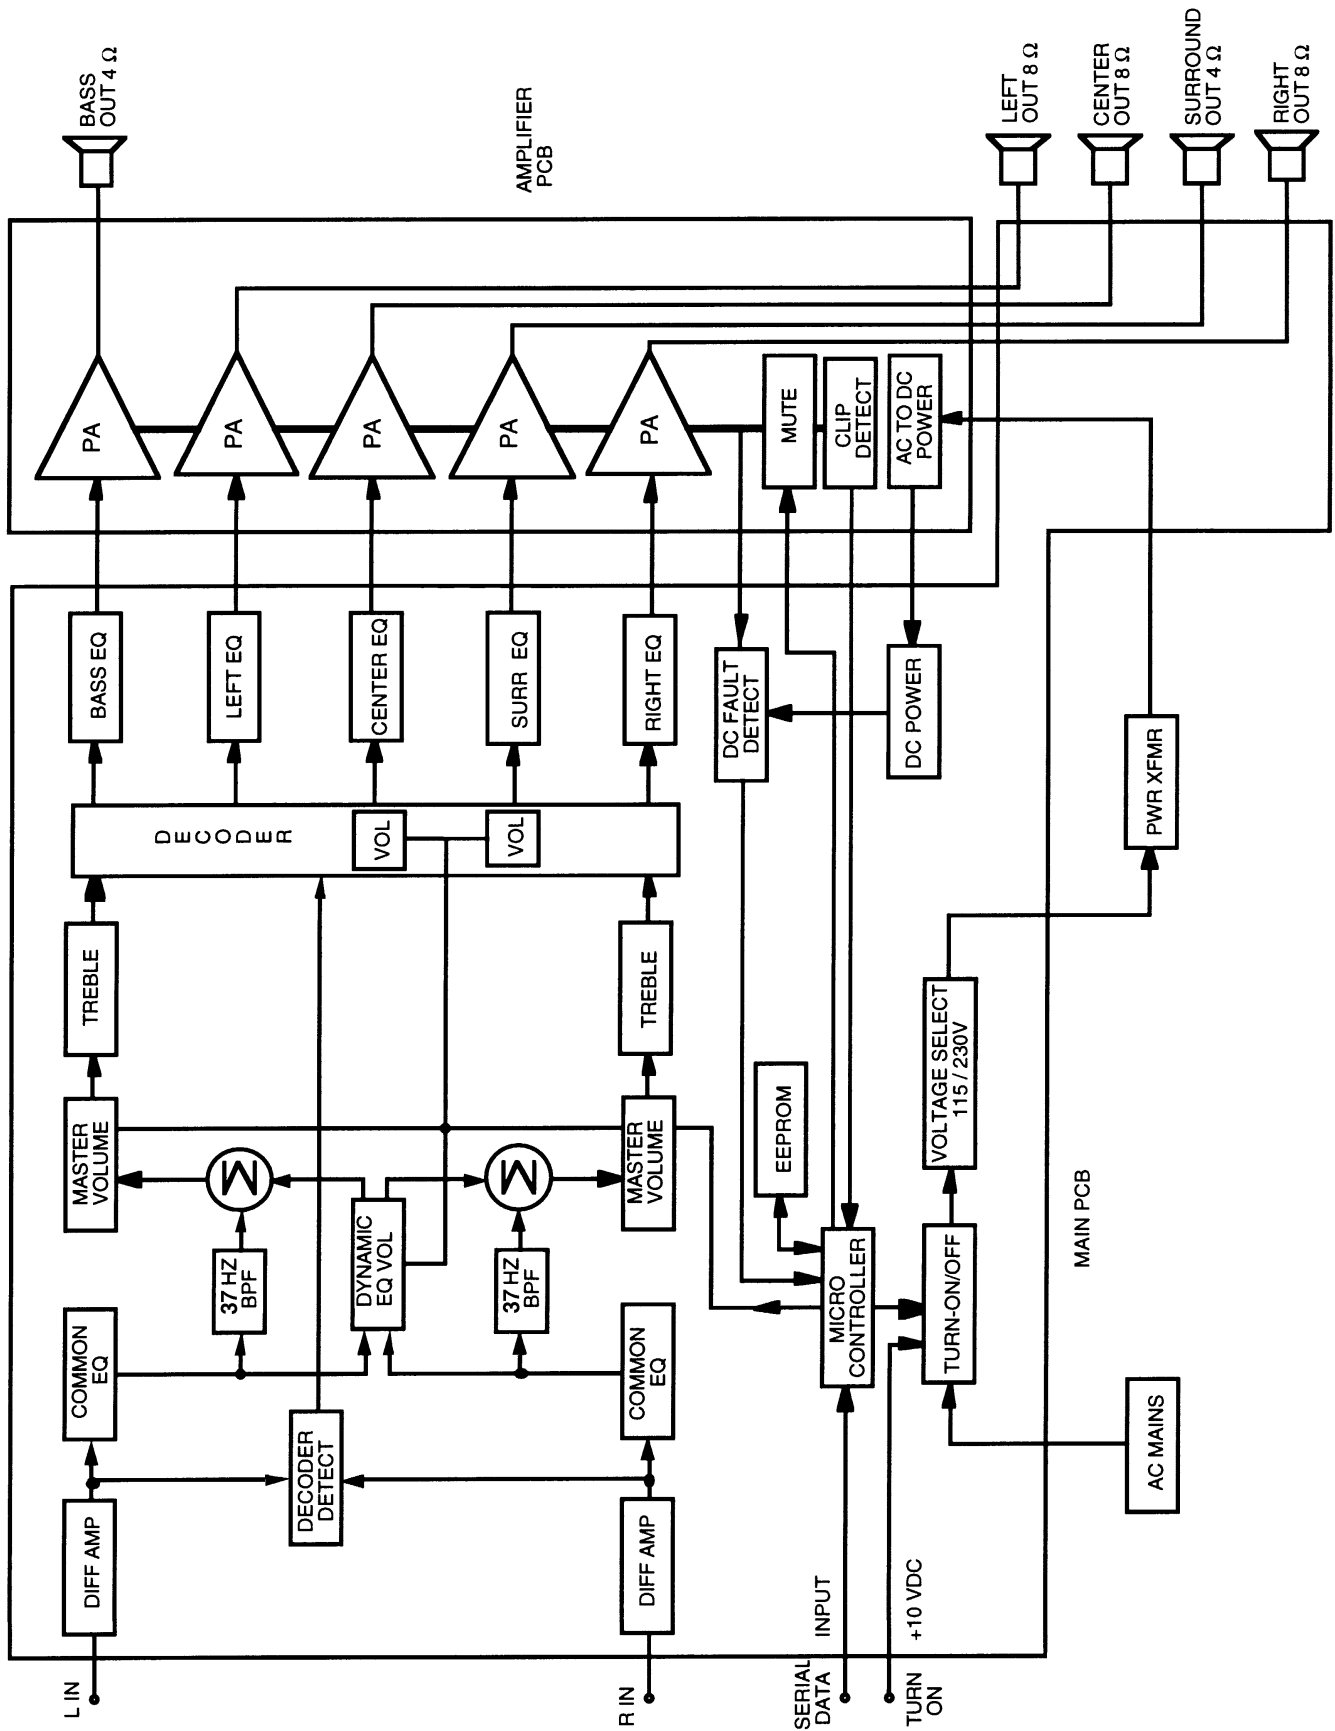

Figure 8. PCB Block Diagram
The following theory of operation relates to the electronic module. The electronic module consists of two printed circuit boards (referred to as the “Main” and “Amplifier” PCB) and a magnetically shielded power transformer. Each PCB will be discussed separately. First, a general operation and block diagram overview will be given (See Figure 8 block diagram), followed by a detailed description of each diagram block that will reference the schematic diagram.
2.1 General Audio Chain (Refer to Figure 8 PCB Block Diagram)
2.3 Microcontroller (Refer to Figure 8 PCB Block Diagram)